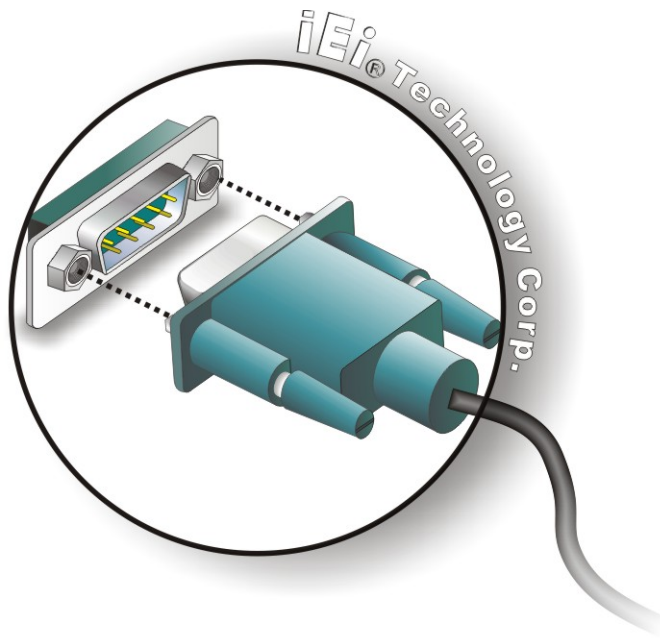

Figure 4-20: Serial Device Connector
Step 2: Insert the serial connector. Insert the DB-9 connector of a serial device into the DB-9 connector on the external peripheral interface. See **Figure 4-20**.